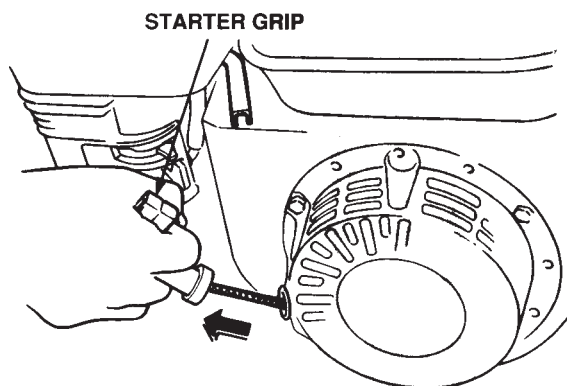

Figure 29. Starter Grip
10. Grasp the starter grip (Figure 29) and slowly pull it out. The resistance becomes the hardest at a certain position, corresponding to the compression point. Pull the starter grip briskly and smoothly for starting.